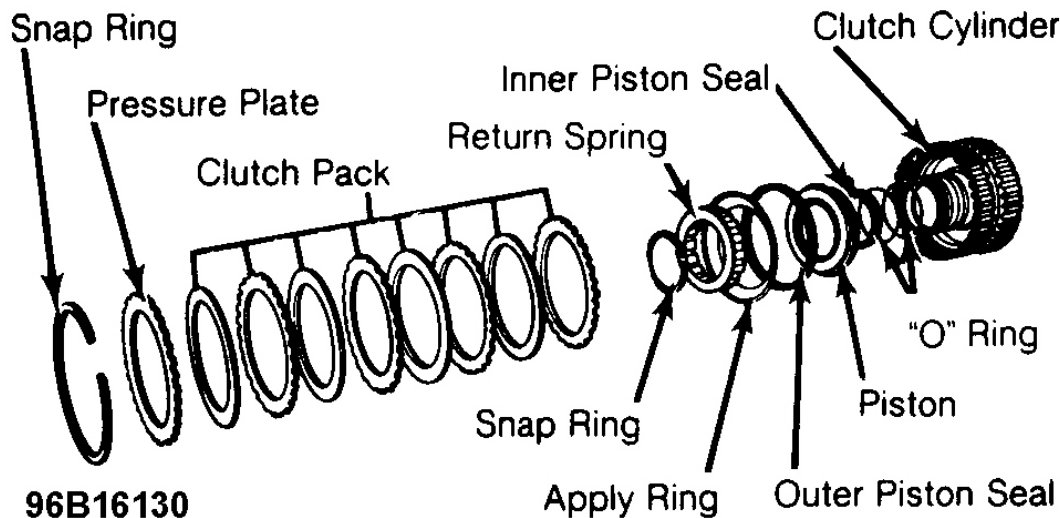

Fig. 23: Exploded View of Direct Clutch Assembly
1. Remove direct-intermediate clutch bushing using slide hammer and Sprocket Bearing Remover (T86P-70043-A), only if replacing. Remove snap ring, pressure plate and clutch pack. See **Fig. 23**.
1. Install inner and outer piston seals (lip facing bottom of cylinder). Using Seal Lip Protector (T86P-70234-A), install piston into hub. Ensure check ball moves freely. Install piston outer ring and return spring in cylinder. See **Fig. 23**.